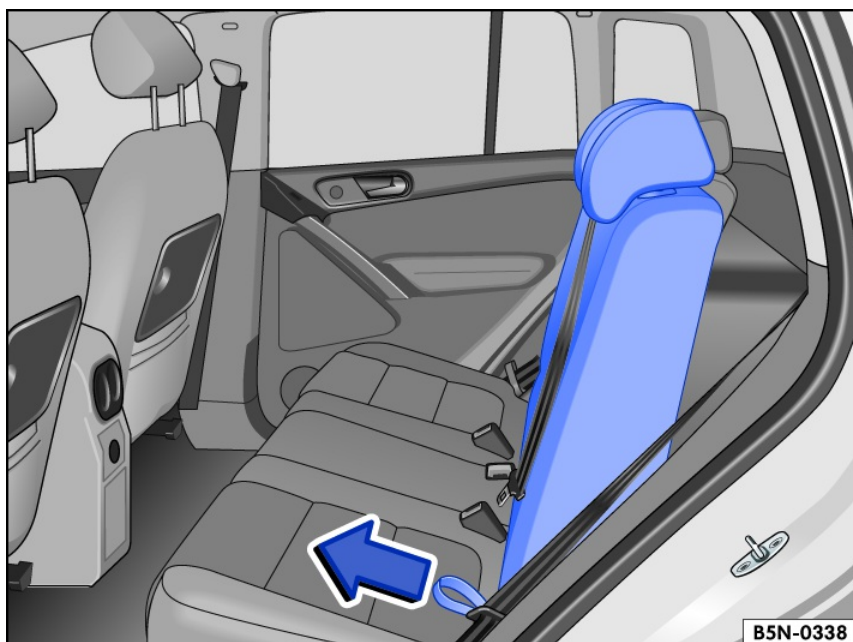

Fig. 82 Rear bench seat: Folding the rear seat backrest up and down.
- Pull the loop fig. 82 forward in the direction of the arrow while supporting the backrest, and slowly fold the rear seat backrest forward → ⚠.